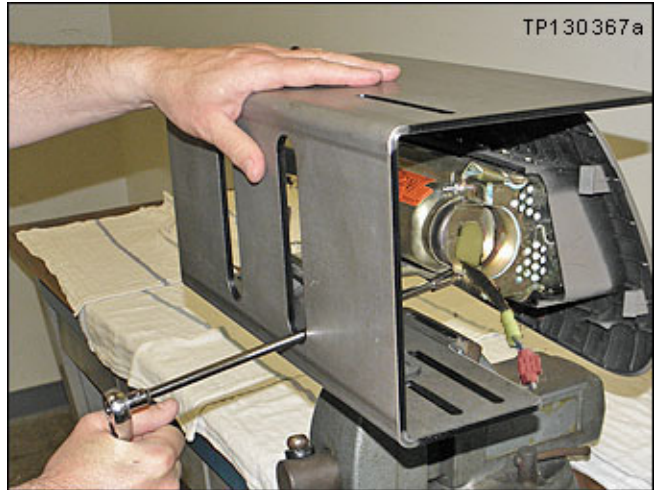

Figure S8
10. Remove the 4 nuts from the module that hold the inflator in place (see Figures S8 and S9).